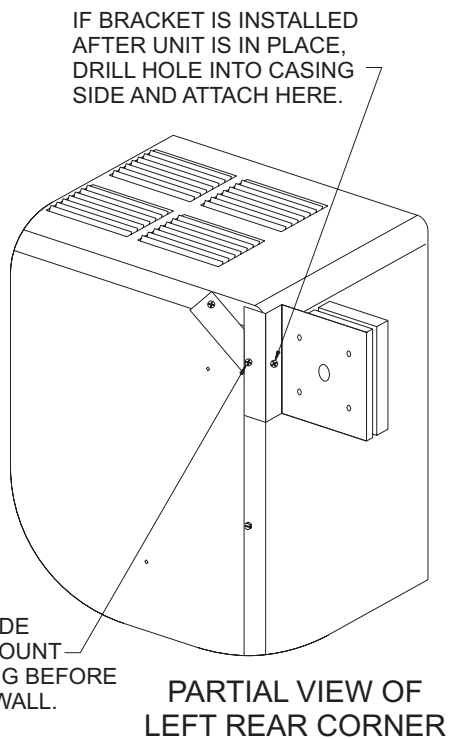

Figure 7
4. If installing the thermostat bracket after the unit has been installed, drill a hole in the side of the unit as shown in Figure 7. and attach the bracket with a screw (not provided).
If installing the thermostat bracket before the unit is installed, use the existing screw on the back of the unit to attach the bracket to the unit as shown in Figure 7.